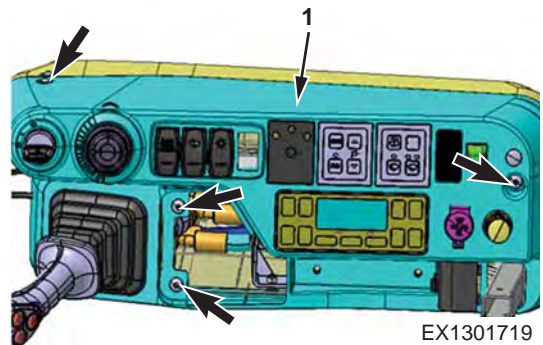

Figure 18 Stand RH
- F. Remove screws (Figure 18) (4 ea), remove upper cover (1, Figure 18) from bracket, and disconnect the connector of harness which connect with switches.